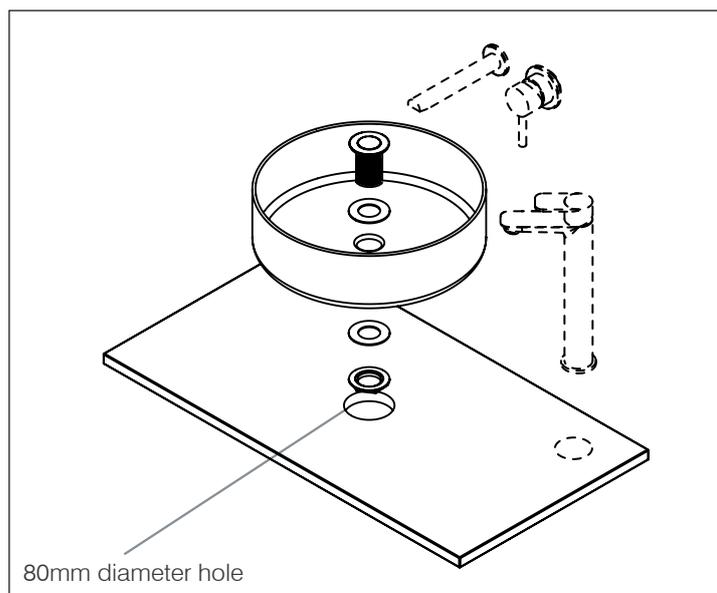
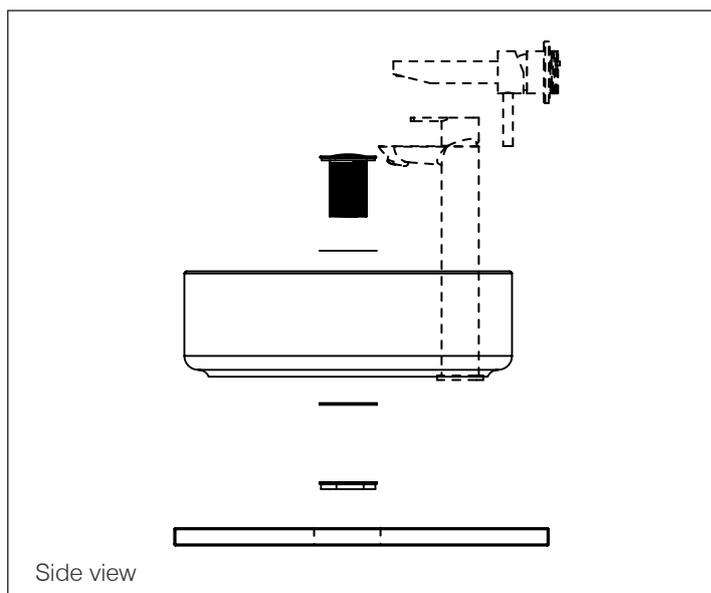

Figure 1
Figure 2
Connect the basin, waste and trap as shown in Figure 1 and Figure 2, ensuring the waste is tightly fixed to the basin before positioning the basin on the worktop.
1. Mark the top face of worktop 55mm from back edge. See figure 1.